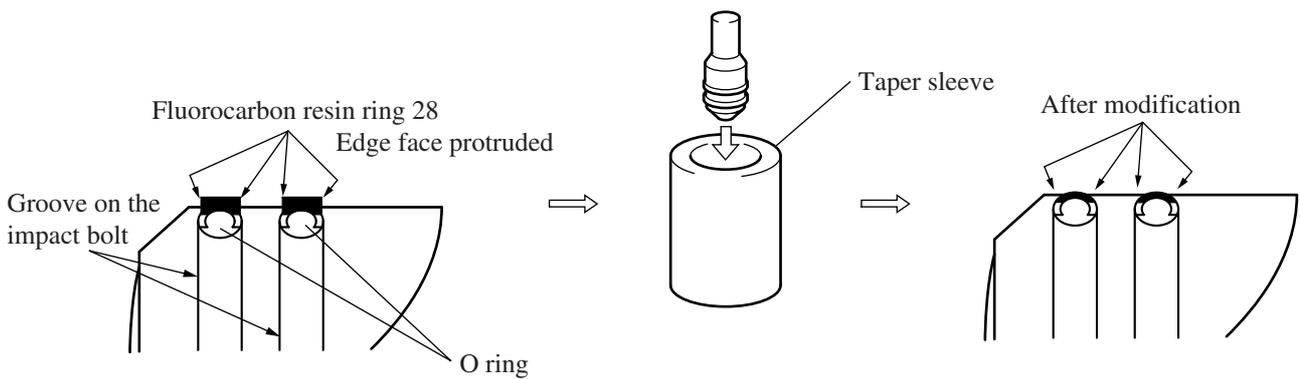

Figure 19
**Assembling Fluoride ring 28 on Impact bolt(Same as HR4000C. see the figure 19.)**